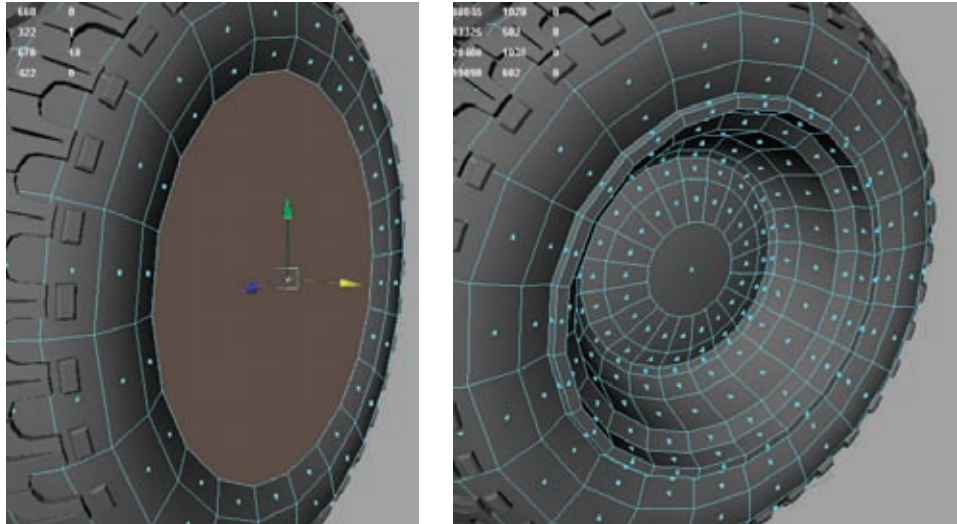

Figure 4.19
23. If you are following along with me, you can also add some details to the hubcap, such as some support struts. In the Side view, drag out a tall cube, with its Subdivisions Width set to 5, which gives it several divisions along its vertical length. Bevel the forward-facing edges and position it on the wheel. You can adjust the vertices to make the shape of the strut curve outward from the center of the wheel and duplicate them around the hubcap's center as in Figure 4.19.